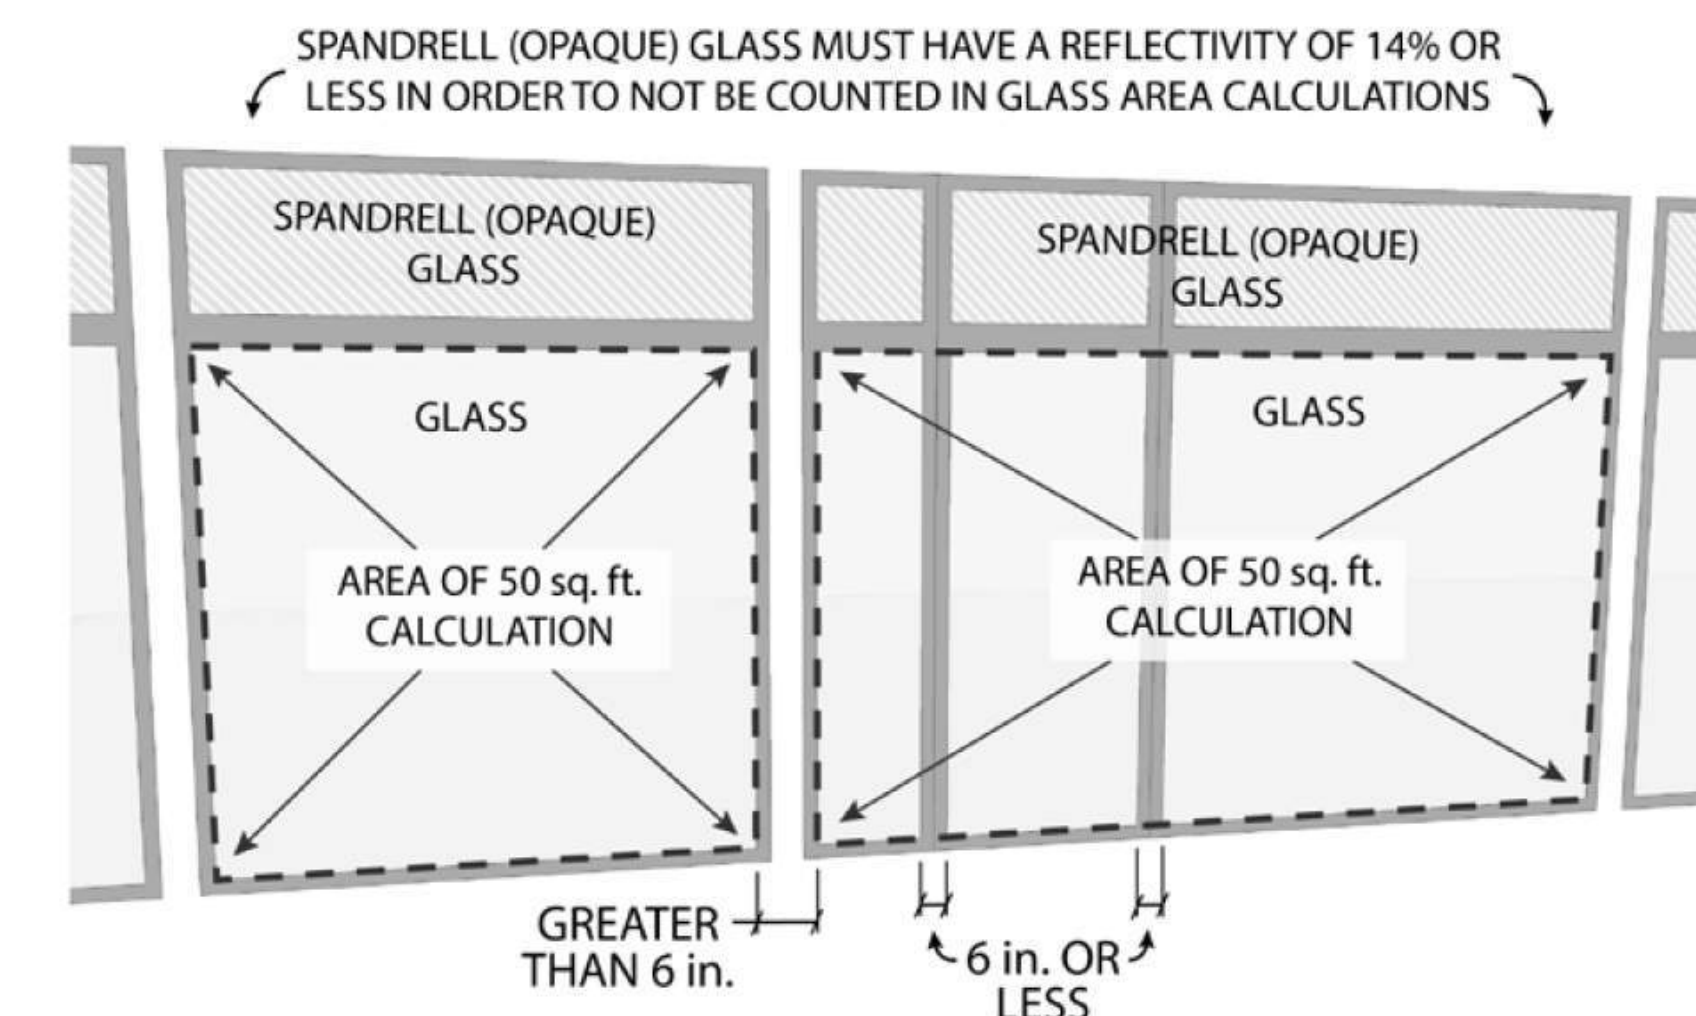

FIGURE 1 - WINDOW MULLION GRAPHIC
- (1) **Statement of Purpose:** The Bird-Safe Glass Requirements in this section are intended to reduce the heightened risk for bird collisions with glass on specified building designs and configurations.
- (2) **Applicability:** Subsection (4) applies to all exterior construction and development activity, including the expansion of existing buildings and structures, as specified therein.
- (3) **Measuring Glass Area:** Under this Ordinance, glass area shall be measured as one (1) continuous panel of glass or other transparent material, or a set of two (2) or more such panels divided by mullions of six (6) inches in width or narrower. Panels surrounded on all sides by solid walls or mullions wider than six (6) inches shall be considered individual windows. Spandrel or opaque reflectivity of 14% or less shall not be included in the calculation of glass area. See Revised Figure 1.
- (4) **Bird-Safe Glass Treatment Requirements:** Glass areas on the following buildings or structures shall be treated to reduce the risk of bird collision by incorporating a pattern of visual markers that are either: a) dots or other isolated shapes that are 1/4" in diameter or larger and spaced at not more than a two-inch (2") by two-inch (2") pattern; or b) lines that are 1/8" in width or greater and spaced no more than 2" apart, low reflective opaque materials, building-integrated structures like non-glass double-skin facades, metal screens, fixed solar shading, exterior insect screens, and other features that cover the glass surface, or other similar mitigation treatments approved by the Zoning Administrator.